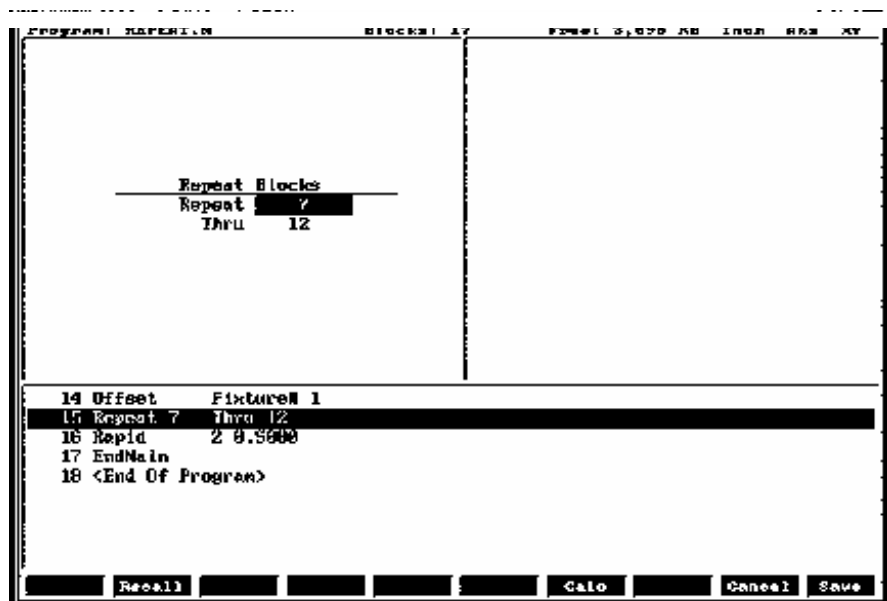

Figure 5-50, Repeat Cycle Screen
1. In Edit mode, press **Mill (F5)** and **Repeat (F8)** to display the Repeat Cycle screen, **Figure 5-50**.